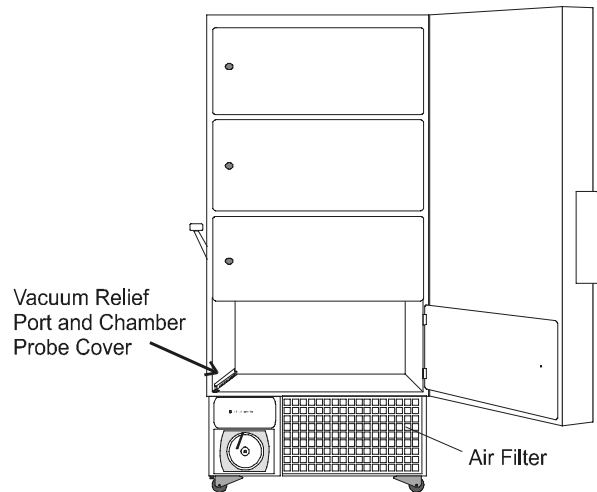

Figure 5-1
To clean the condenser, remove the front grille by grasping the assembly at the corners and gently pulling it away from the frame. Clean the compressor housings and condenser fins with a vacuum cleaner or air-hose. Other refrigeration system parts are cleaned by removing the back and side panels. (Refer to Figure 5-1.)
5.3 Cleaning the Air Filter (Refer to Figure 5-1)
5.6 Cleaning the Vacuum Relief Port (Refer to Figures 5-1 and 5-2)